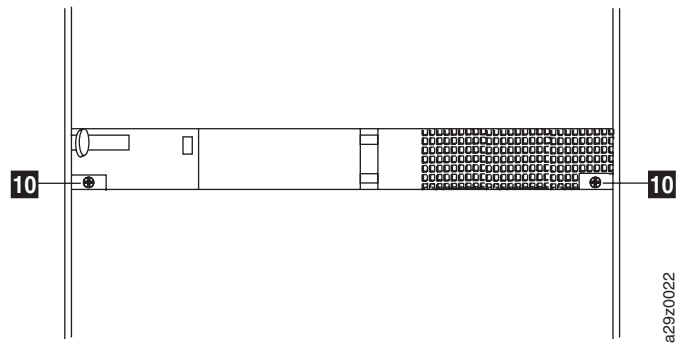

Figure 8-22. Securing the rear of the library in the rack
7. Secure the rear of the library to the rack using two round-head screws **10** on each rear bracket (Figure 8-22). Tighten the other rear bracket screws to secure the library to the rack.